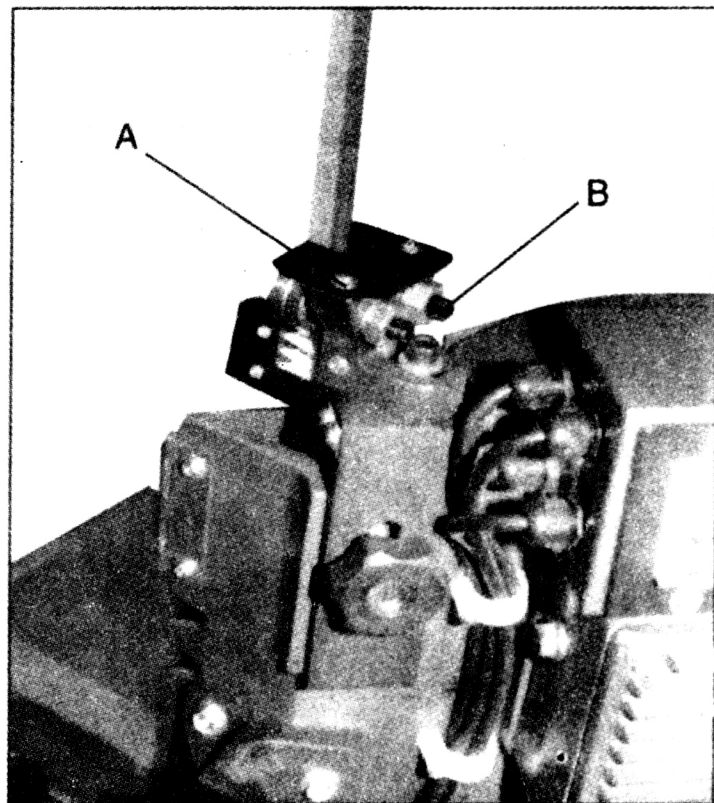

Fig.14
3. Loosen hex cap screw (A, Fig. 14) and adjust assembly so that back roller bearing is approximately 0.08mm~0.12mm from the back of the blade.